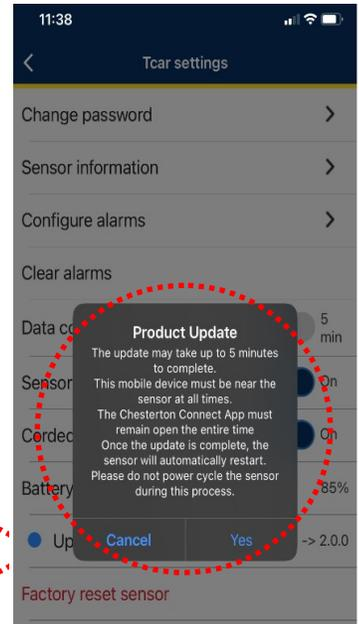

Figure 44
3. In the Product Update pop-up window, select **Yes** and follow the prompts to start and finish updates installation (see figures 44, 45 & 46).